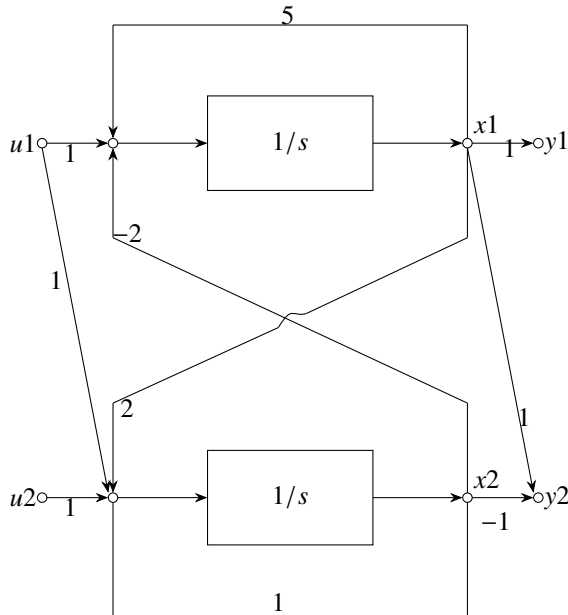

Fig. 10.1
- 10) In the signal flow diagram given in the figure 10.1,  $u_1$  and  $u_2$  are possible inputs whereas  $y_1$  and  $y_2$  are possible outputs. When would the SISO system derived from this diagram be controllable and observable?